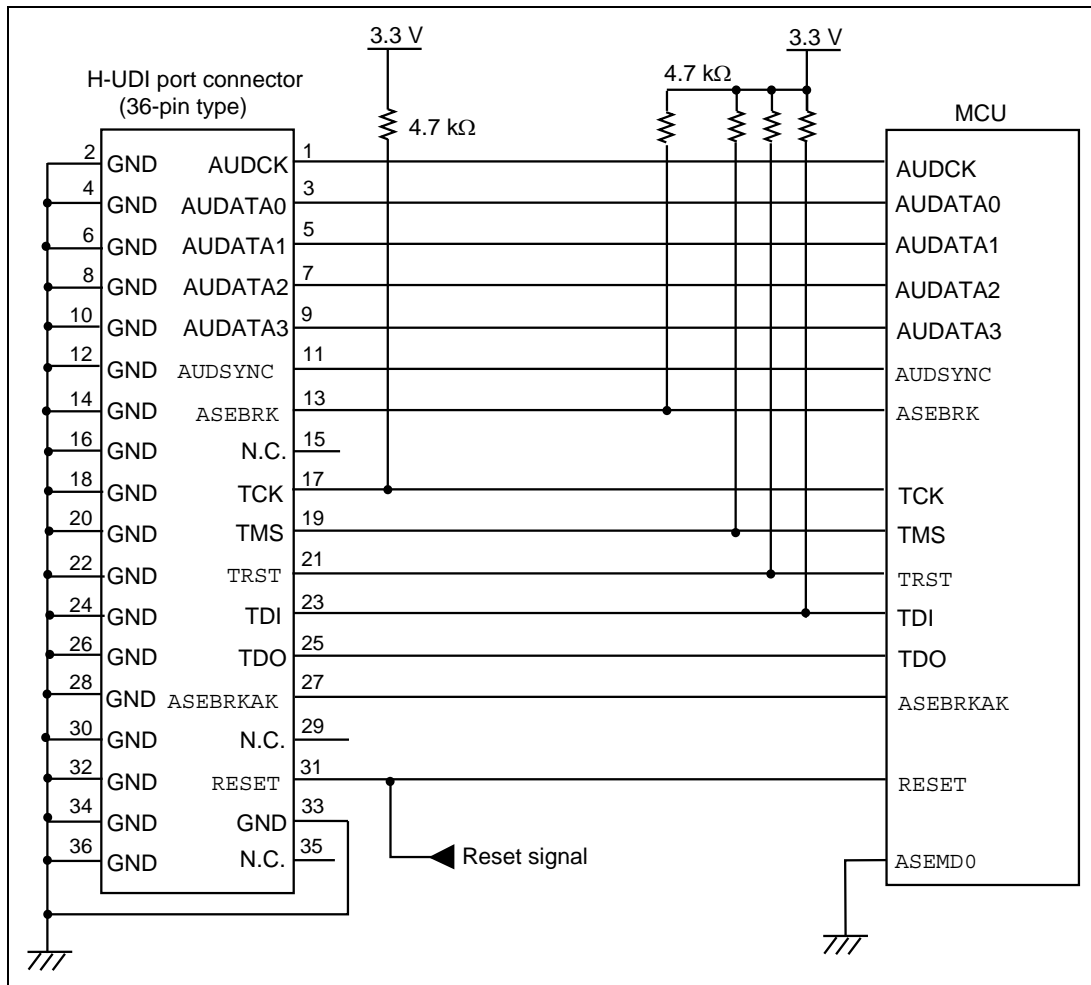

Figure 4.1 Recommended Circuit for Connection between the H-UDI Port Connector and the MCU when Using the Emulator (36-Pin Type)
Figure 4.1 shows a recommended circuit between the H-UDI port connector (36 pins) and the MCU.
- (1) When the emulator is used: /ASEMD = low (ASE mode)
- (2) When the emulator is not used: /ASEMD = high (MCU mode)
6. The resistance values shown in figure 4.1 are for reference.